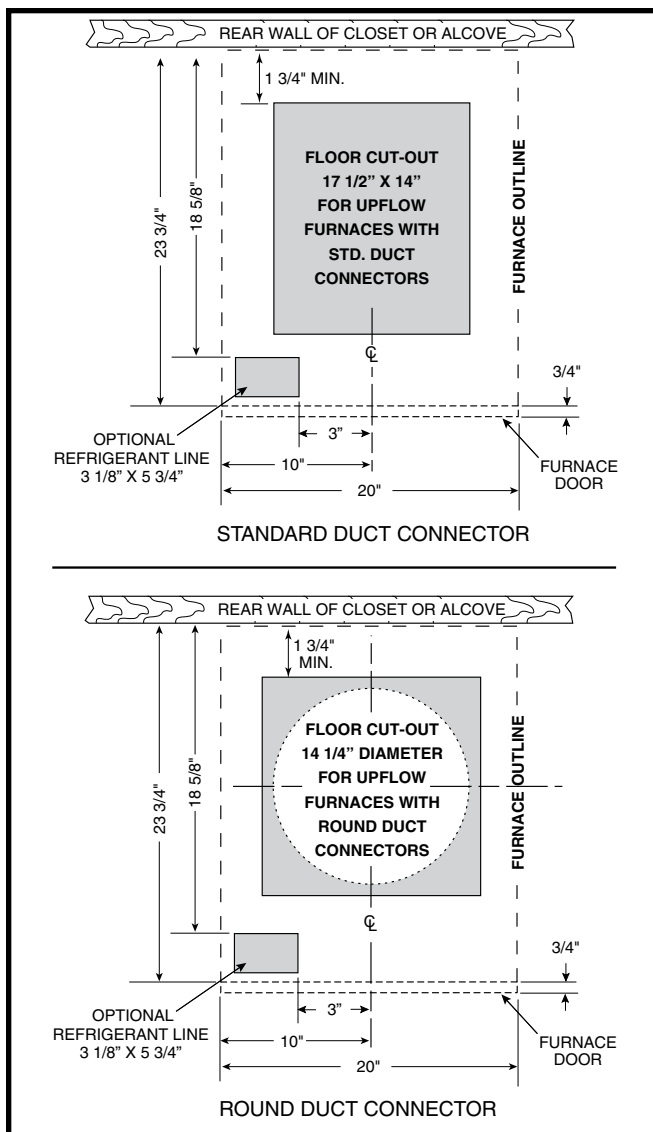
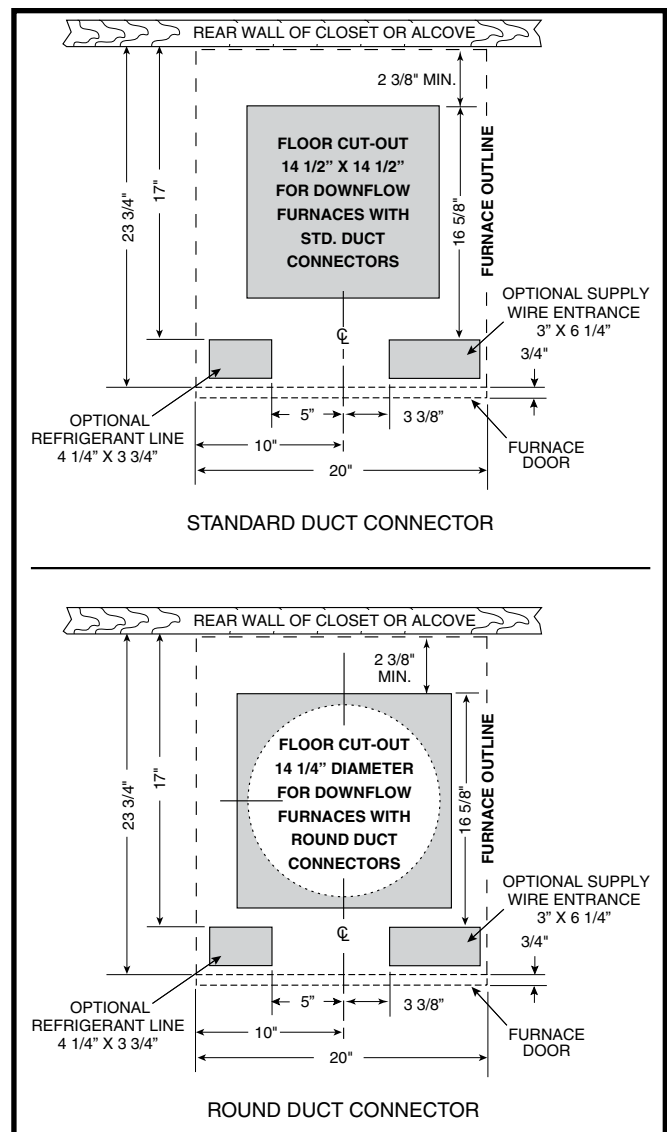

Figure 5. Cut-Out Dimensions for Upflow Furnaces
Figure 6. Cut-Out Dimensions for Downflow Furnaces
Floor cut-outs must be carefully located to avoid misalignment of the furnace and air duct. Standard and round cutouts for upflow furnaces are shown in Figure 5. The cutouts for downflow furnaces are shown in Figure 6.
2. Using the centerline as a starting point, draw the rest of the duct cut-out to the dimensions shown in Figure 5 or Figure 6.